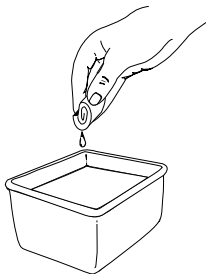

Fig. 22
3. Wash the filter in detergent and water (Fig. 22). Rinse the filter thoroughly. Squeeze out excess water. Allow it to dry completely.